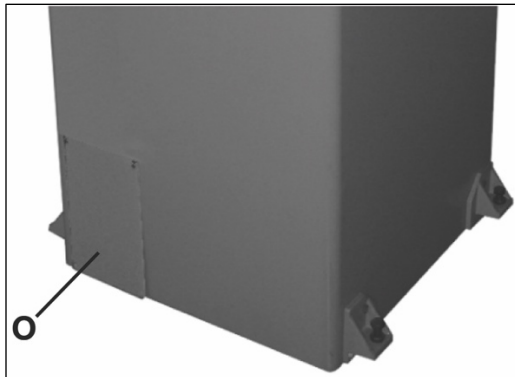

Figure 8-10
Refer to Figure 8-10.
6. Align the baffle plate (O) with the mounting holes in the stand as shown in Figure 8-10.